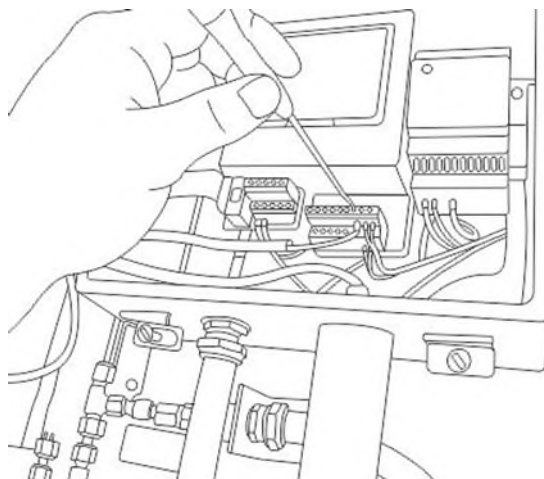

Figure 82. Removing the wiring
6. Disconnect the red and black wires labeled “psens-” and “psens+” from terminal block TB2 using the mini screwdriver as shown in Figure 82.